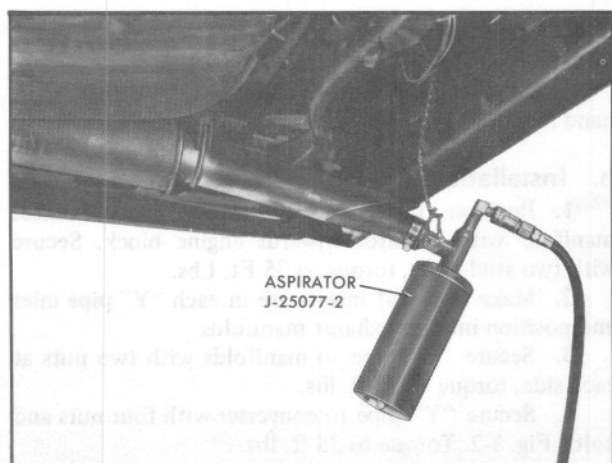

Fig. 8-5 Installing Aspirator
1. Install aspirator, Fig. 8-5.